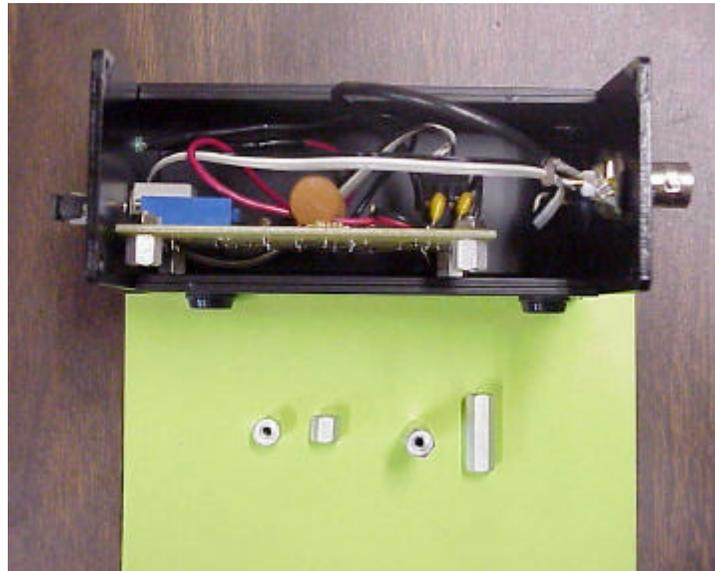

Figure 18. Use of spacers in construction.
3. Spacers and Chassis. Spacers are usually used to mount circuit boards to a chassis. Spacers are available in many lengths and materials, and may have internal or external threads. Figure 18 shows two sizes of aluminum hexagonal threaded spacers and shows how they are used for mounting a PCB into a chassis.